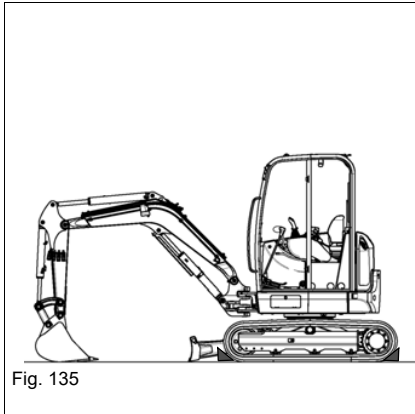

Fig. 135
10. Secure the vehicle with wheel chocks (see Fig. 135).